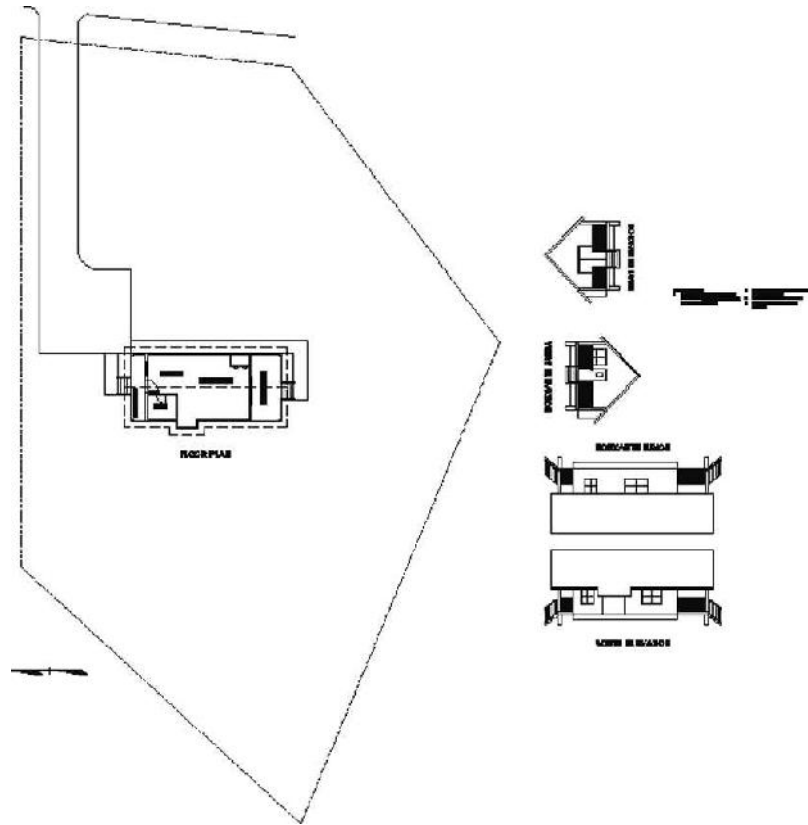

FIGURE 13.27: The floor plan drawing with the revised Xref of the site plan
12. Use Zoom To Extents, and then zoom out a little to a view of the whole site (see Figure 13.27).